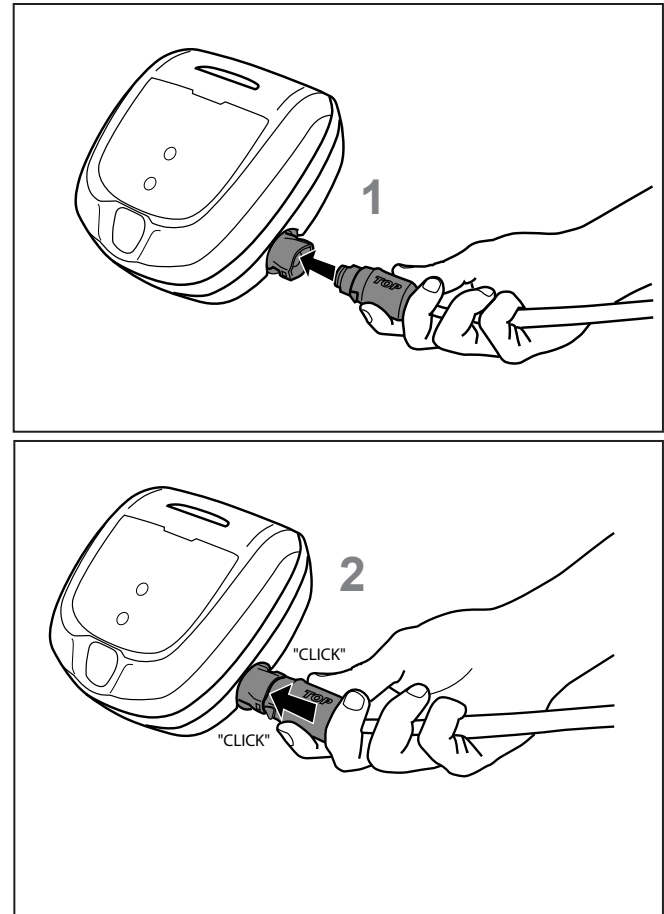

Figure 10. Connect the Power Cord
- Rotate the power cord so that TOP is shown on the top side. Press the power cord firmly into the control unit until you hear a "click" (see Figure 10). The clicking indicates the power cord is connected correctly creating a watertight seal.